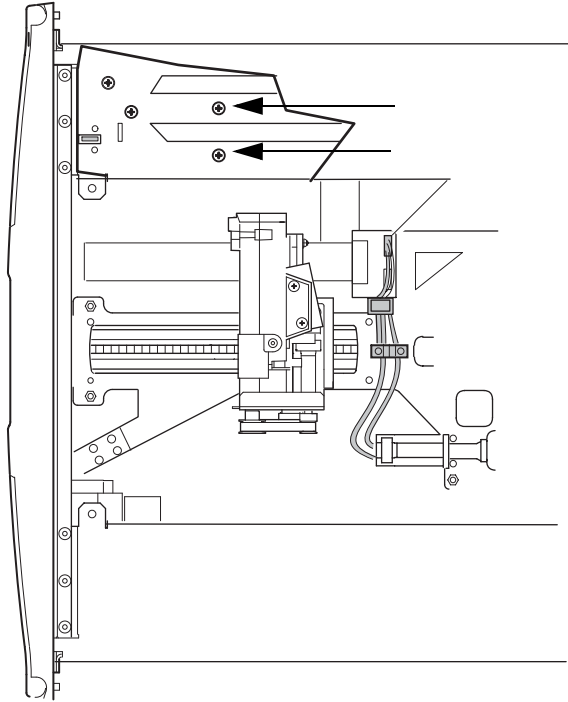

Figure 3–17: Mail slot solenoid mounting screws
1. Position the mail slot solenoid underneath the magazine track. The top of the tab should be in the black sleeve (see Figure 3–17).